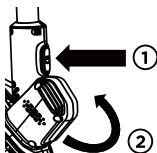

Fig. 10-1
- a. Firmly grip the main shaft, press and hold the Head Rotation Button, then rotate the trimmer head 180° counterclockwise. (Fig. 10-1) The trimmer head only rotates in one direction.